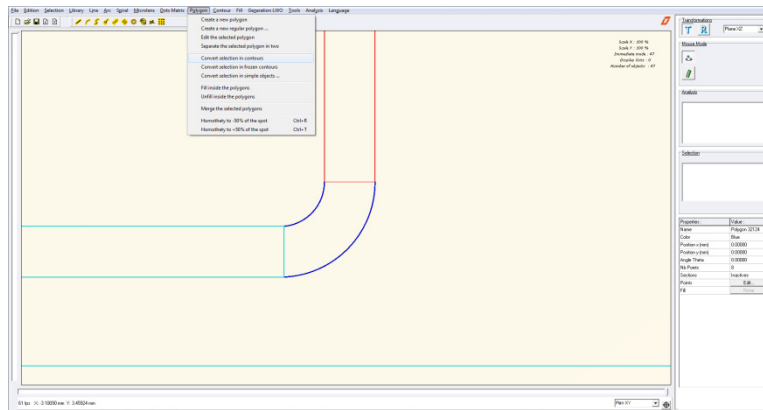

Fig12 : Remaining shape after correction
- Once the new shape created, delete the original polygons (see Fig12)